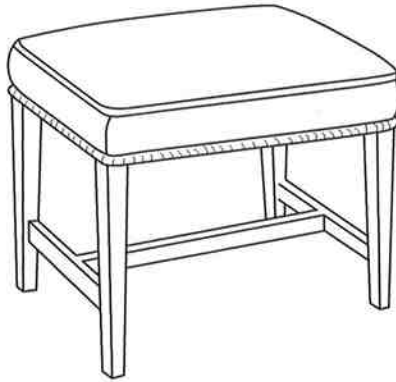

Figure 8. Pictorial drawing of upholstered stool
9. Figure 8 shows the pictorial drawing of an upholstered stool with an attractively piped border along the bottom edges of the rails.